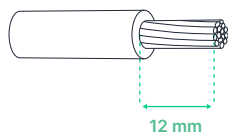

Fig. 7 - Insulation stripping length.
13. Strip 12mm of insulation for each of the conductors of the power supply cable. **(Fig. 7 - page 19)**